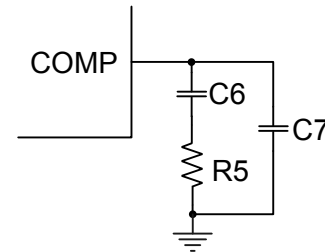

Figure 9: Compensation Network
The system has two important poles: one from the compensation capacitor (C6) and the output resistor of the error amplifier, and the other from the output capacitor and the load resistor (see Figure 9). These poles can be calculated with Equation (16) and Equation (17):